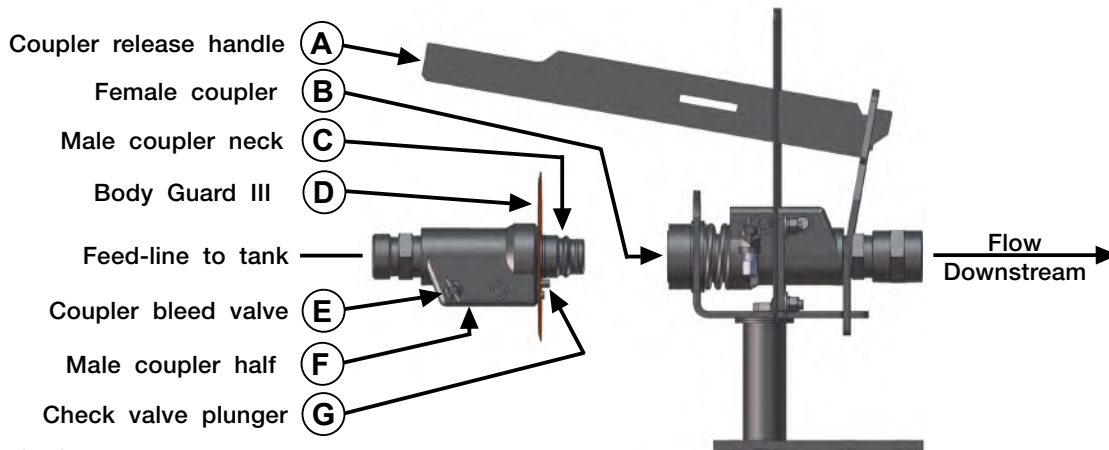

FIG. 3-18
3. While holding and pointing the hose and male coupler (F) downwind and away from your person, depress check valve plunger (G) with gloved finger to ensure proper operation (FIG. 3-18). Wipe foreign debris from coupler neck (C) with clean cloth.
4. Make certain BodyGuard III (D) is installed fully with slot oriented around check valve plunger (G) to protect against ammonia spray-back during coupling (FIG. 3-18 & FIG. 3-19).